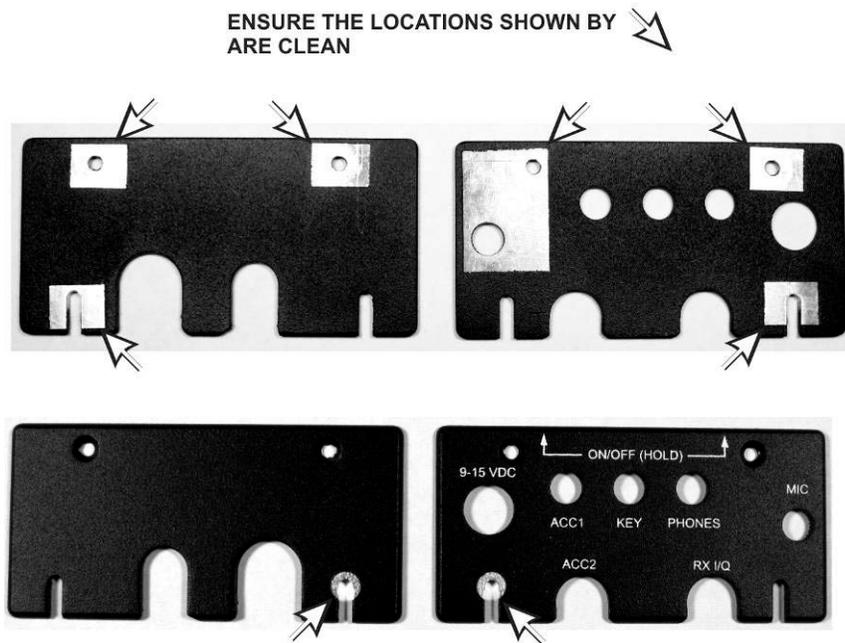

Figure 6. Side Panels Clean Contact Areas.
- ☐ Inspect the inside surface of the side panels. Remove any masking tape and ensure the metal is clean in the areas shown in Figure 6.